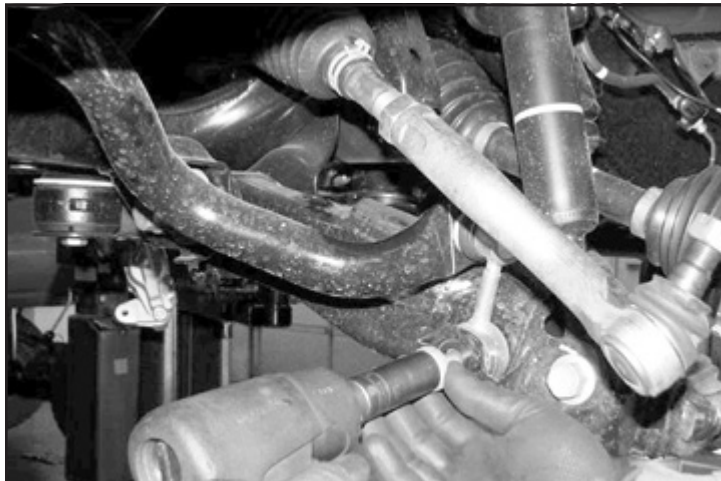

FIGURE 40
32. Reinstall the lower sway bar link to the lower control arm. Torque to 100 ft – lbs. **SEE FIGURE 40**